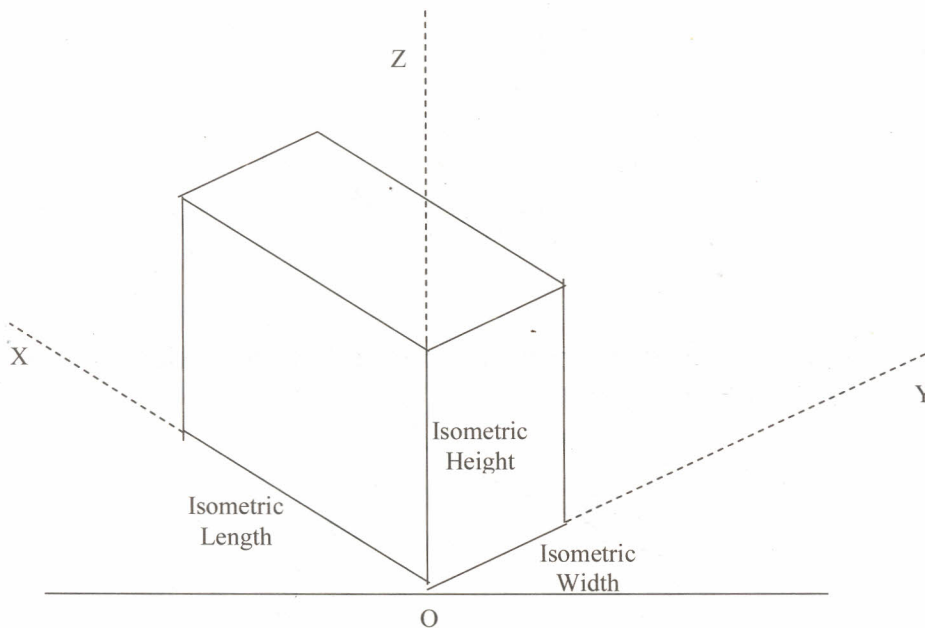

Fig. 11.12
3. Take an Origin 'O' on the paper ref fig. 11.12, with sufficient space to draw the Isometric above the point 'O'. Draw a horizontal line XY through 'O' and another vertical line OZ.